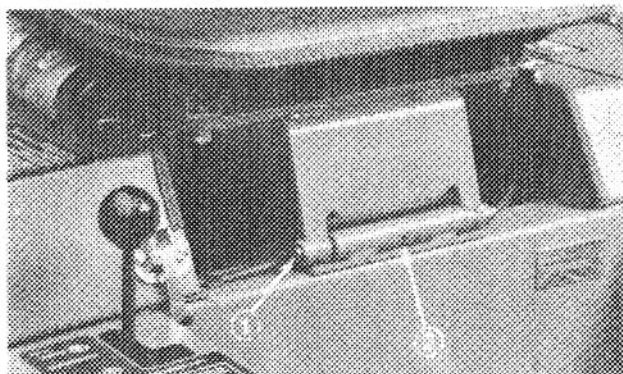

Figure 9
10. Mount seat and seat support to unit with pivot shaft and roll pin (Fig. 9).